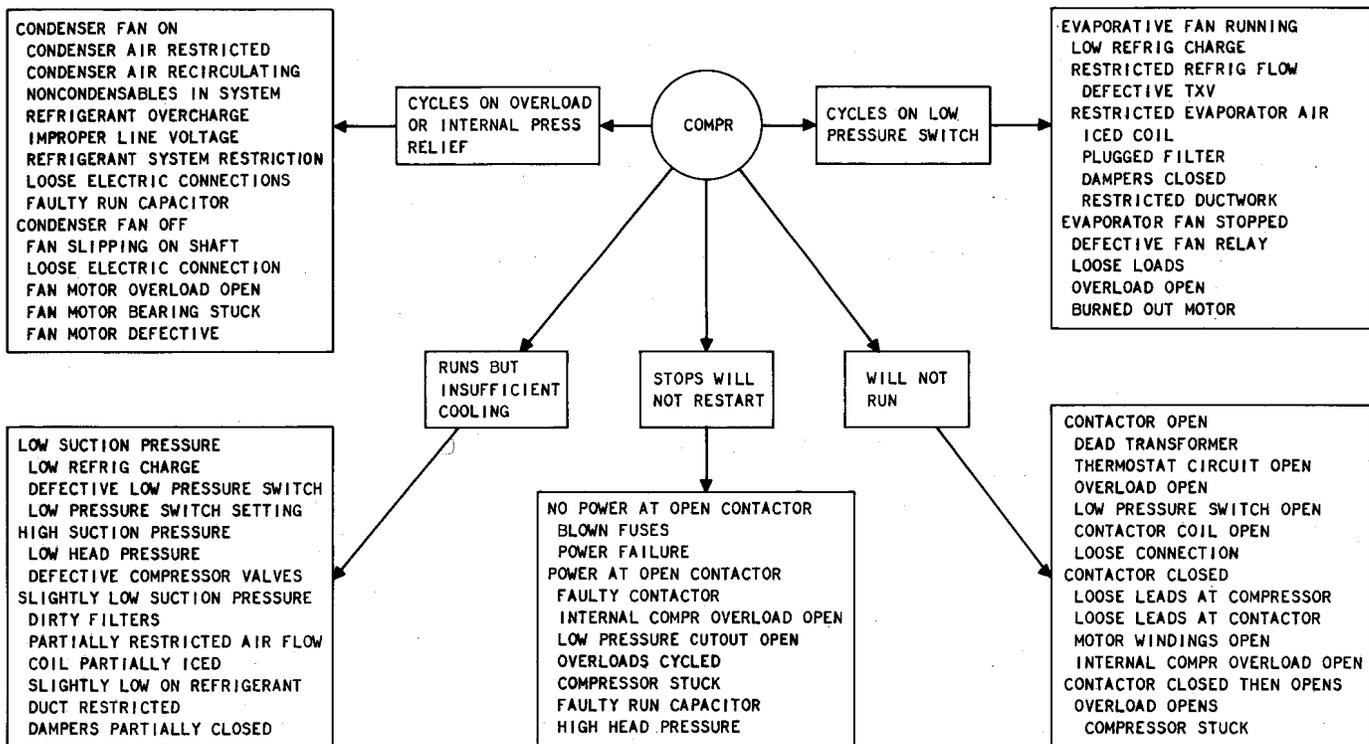

Fig. 12—HVAC Troubleshooting Chart
2.22 Troubleshooting: The HVAC troubleshooting chart (Fig. 12) *is* provided to inform the user of the possible causes of malfunctions. The HVAC troubleshooting chart *is not* provided for any other action other than that of determining the probable cause of the malfunction. *The user should not attempt any repairs but should contact the service representative.*